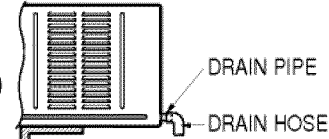

Fig. 1
2. Connect a drain hose of  $\frac{3}{16}$ " inside diameter to the drain pipe as shown in Fig. 1.